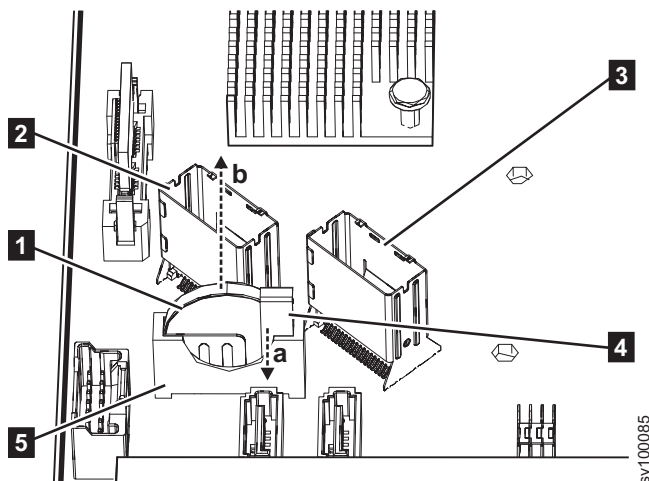

Figure 128. Removing the 2145-SV1 CMOS battery
- a. Pull the battery holder catch **4** away from the battery in the direction (a) shown in Figure 128.
- b. Use your thumb and index finger to lift the battery from the holder **5** in the direction (b) shown in Figure 128.